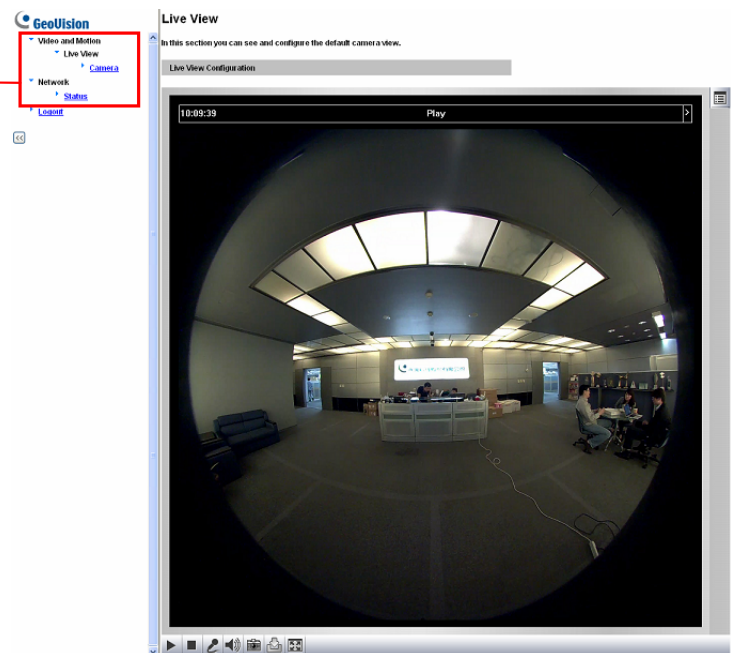

Figure 4-2
4. A video image, similar to the example in Figure 4-2, is now displayed in your browser.